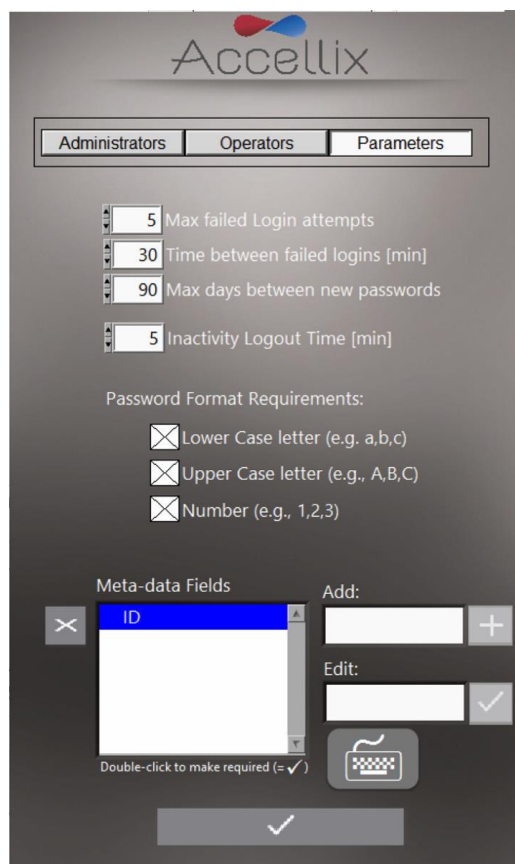

Figure 10: Login Parameter Options
1. Tap **Parameters** at the top of the **Personnel** screen. All changeable login parameters (Figure 10) are displayed:
3. Meta-data fields displayed in Figure 10 are examples only.